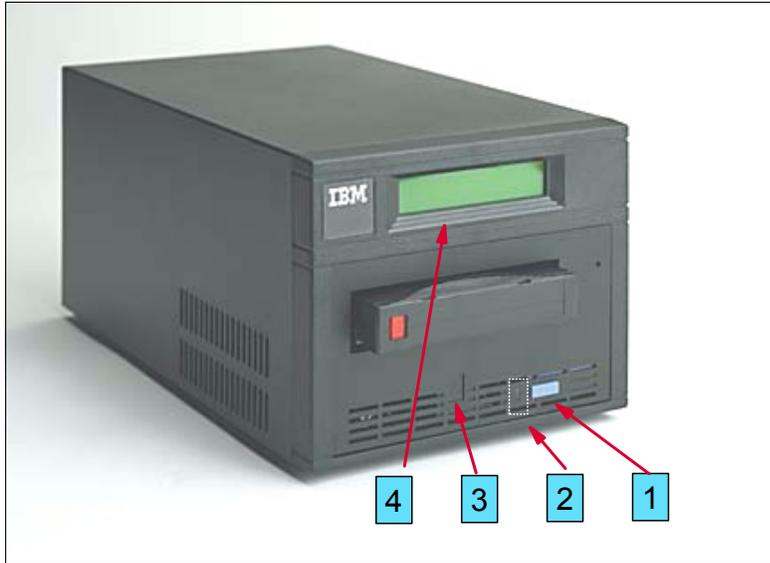
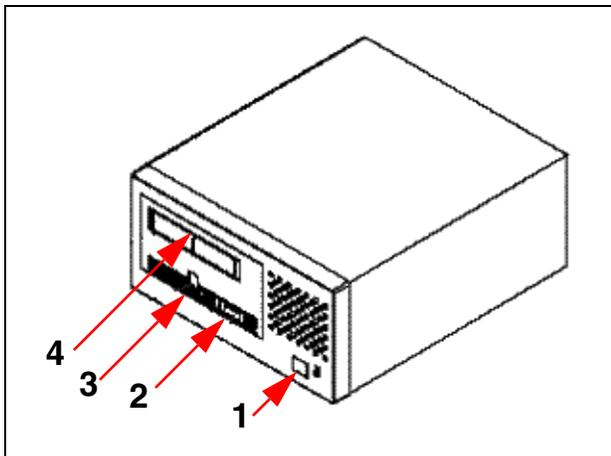

Figure 11-4 Front view of the IBM 3580 model L11/L13/L23 or H11/H13/H23 Tape Drive
Figure 11-5 Front view of the IBM 3580-L33/L3H Tape Drive
The status light (labeled 2 in Figure 11-4 on page 314 and Figure 11-5 on page 314) provides information about the state of the IBM 3580. The light can be either green or amber (yellow), and, when lit, either solid or flashing. These are the possible conditions of the status light and an explanation of what each condition means:
- ▶ Green/solid: The IBM 3580 Tape Drive is idle, or if C displays simultaneously in the single-character display (see label 3 in Figure 11-4 on page 314 or Figure 11-5 on page 314), it needs cleaning.
The message display (labeled 4 in Figure 11-4 on page 314 and Figure 11-5 on page 314) is a liquid crystal display (LCD) that provides information about the status of the tape drive and error conditions.
The IBM 3580 features a light-emitting diode (LED) display (labeled 3 in Figure 11-4 on page 314 and Figure 11-5 on page 314). The LED presents a single-character code for:
The Power push button (labeled 1 in Figure 11-5) turns the tape drive on or off. The button is located on the front panel. When the Power Button is in the off position, the primary electrical